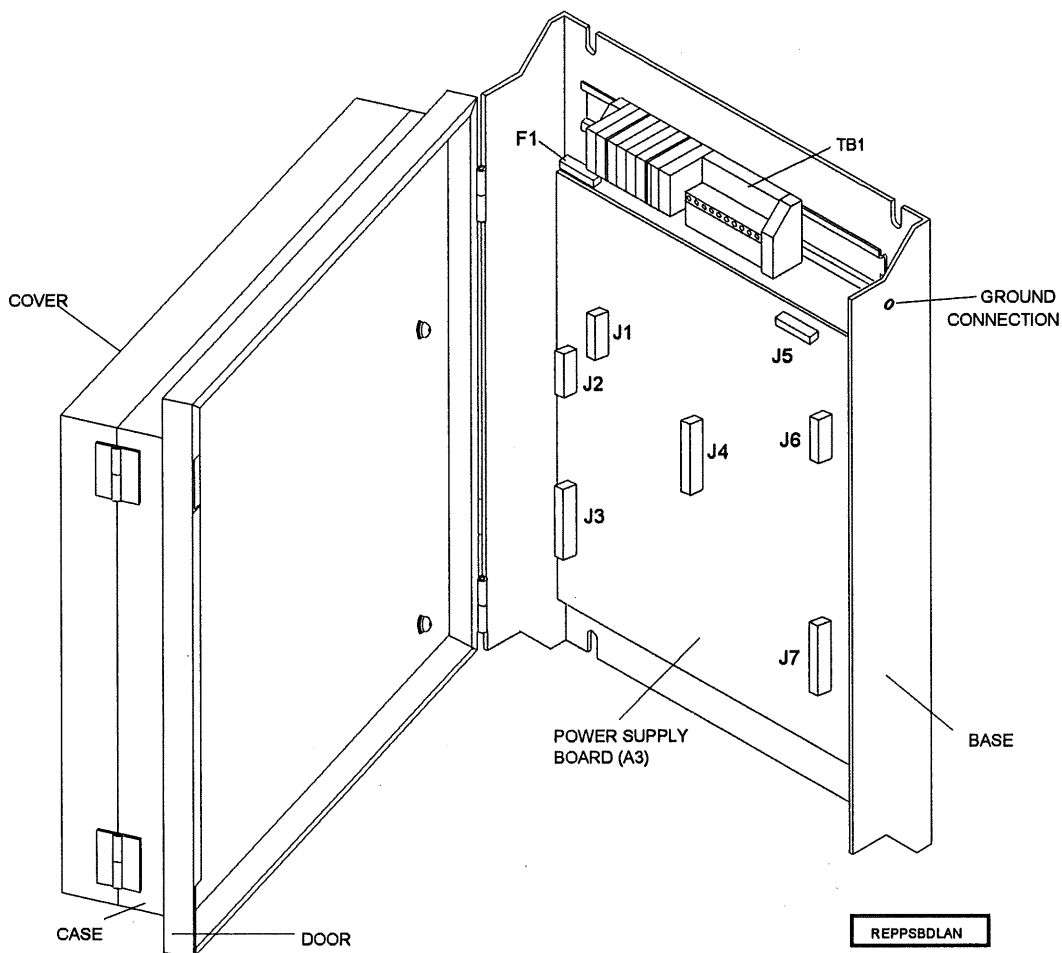

FIGURE 7-2. REPLACING POWER SUPPLY BOARD
7.3.3 REPLACING POWER SUPPLY BOARD (A3) (Refer to Figure 7-2.)
3. The only fuse, F1, is readily available near the upper-left corner of the base assembly. See Figure 7-2. Fuse F1 is 3 amp, 250 volt. The Avtron part number is 324070 and the Bussman part number is ABC-3.